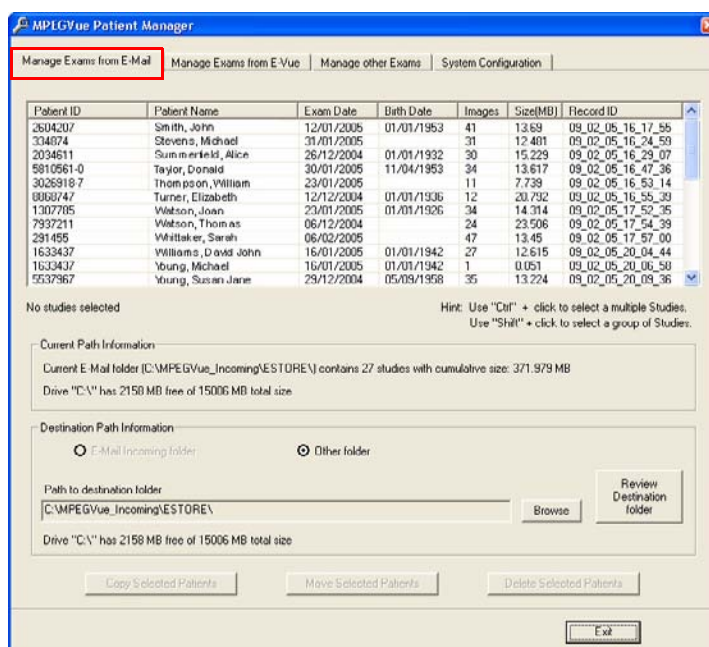

Figure 3-136 MPEGVue Patient Manager Window - Manage Exams from Email Tab
- a.) Make sure the Manage Exams from Email tab is activated as shown in Figure 3-136.